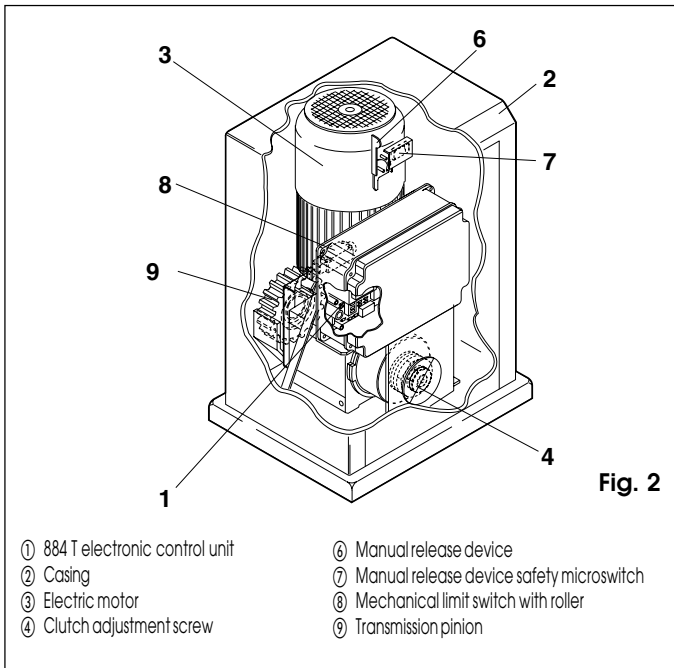
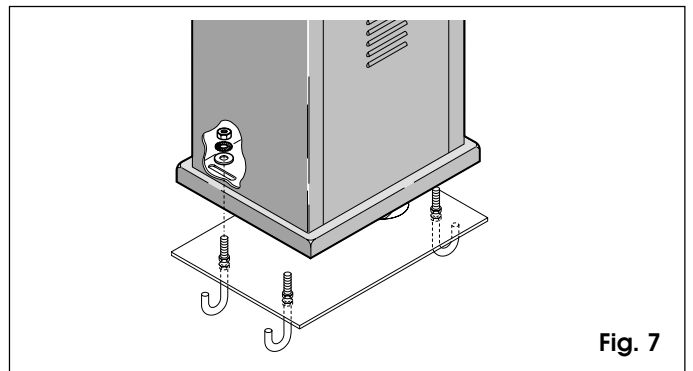

Fig. 2
Fig. 7
- 1) Remove the casing (2, fig. 2) and position the gear motor on the foundation plate. Fit, but do not tighten, the washer, the split washer and the nut as shown in fig. 7.